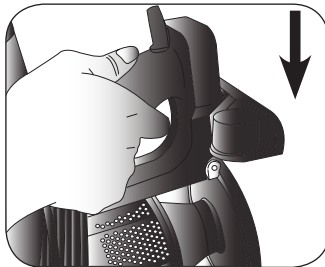

Fig. 12
Place the support on the wall. Adjust the height of the support on the wall according to the height of the appliance. Using a pencil, make marks on the wall corresponding to the three holes in the support. Remove the support from the wall. Drill the wall with the drill at the markings. Insert the supplied wall plugs (T) into the holes. Place the wall support with the holes at the wall plugs. Insert the supplied screws (S) into the holes. Tighten the screws with a screwdriver. Hook the appliance to the support (Fig. 12).